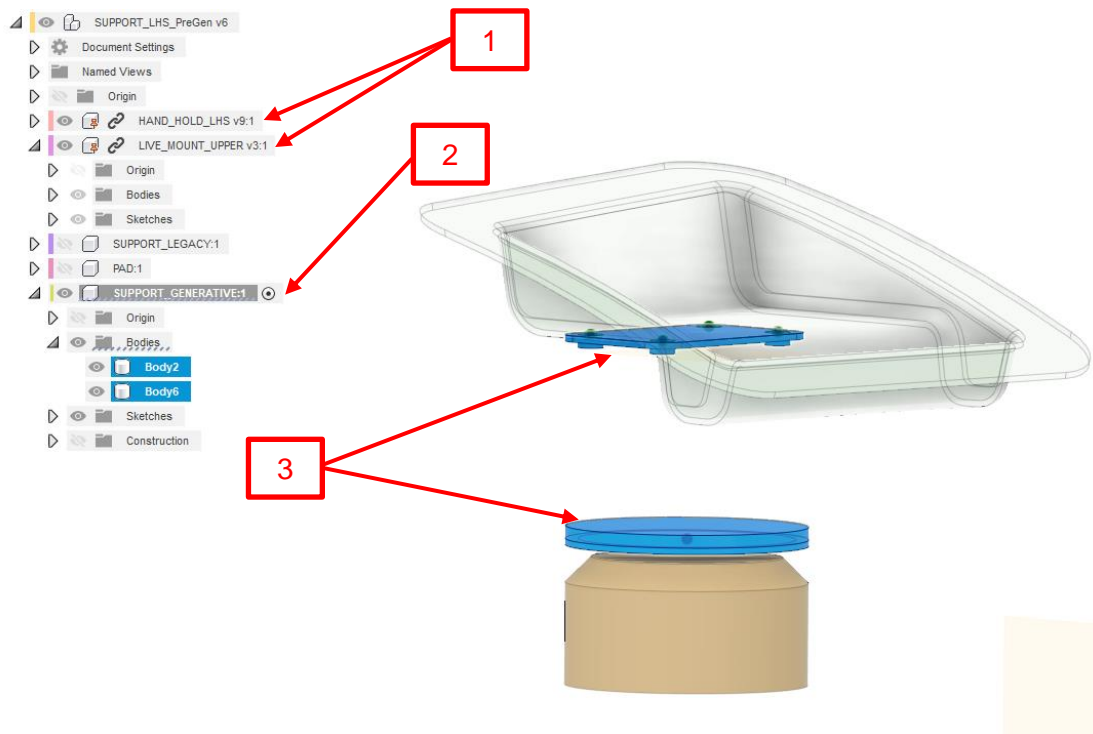

Figure 3
In Figure 3, item 1 refers to imported reference geometry, item 2 to the new design, and item 3 to the modeled interface geometry that will contact the imported reference models.